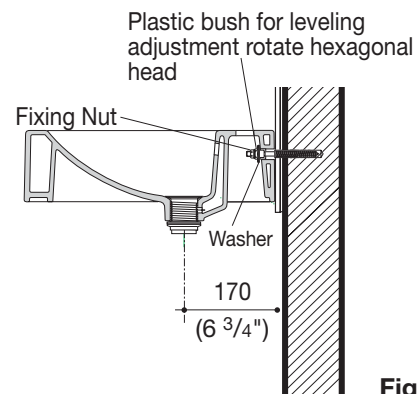

Fig 3
- 5- Locate basin/lavatory onto the Fixing/Anchor Screws on the wall. Insert plastic bushes, metal washers and fasten to wall with fixing nut. To complete assembly as detailed in **Figure 3**.
- 6- The Plastic Bush allows for leveling adjustment if required by rotating the hexagonal head bush, the basin/lavatory will be slightly raised or lowered as shown in **Figure 3**.